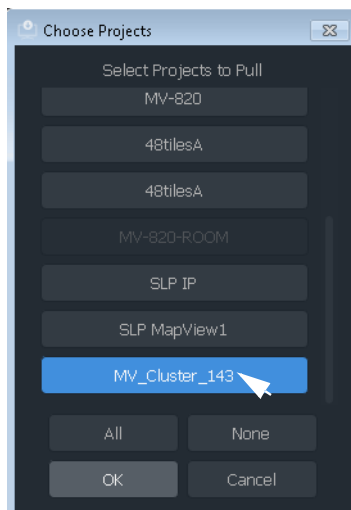

Fig. 13-17: Choose Pull
- 2 Ensure that the project Repository to be pulled is selected (highlighted in blue) in the dialog. See Figure 13-17.